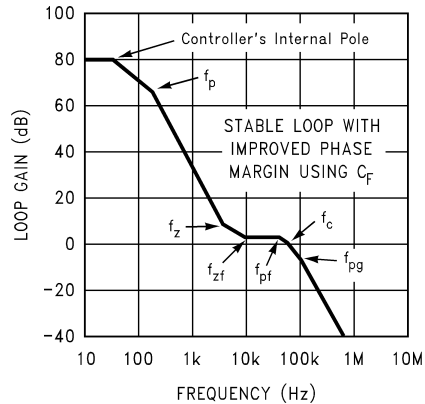

Figure 28. Improved Phase Margin with Feed-Forward
**EFFECT OF FEED-FORWARD:** The example previously used will be continued with the addition of a feed-forward capacitor  $C_F$  (see Figure 28). The zero formed by  $C_F$  (previously defined as  $f_{zf}$ ) is set at 10 kHz and the pole formed by  $C_F$  (previously defined as  $f_{pf}$ ) is set at 40 kHz (the 4X ratio of  $f_{pf}/f_{zf}$  corresponds to  $V_{OUT} = 5V$ ).